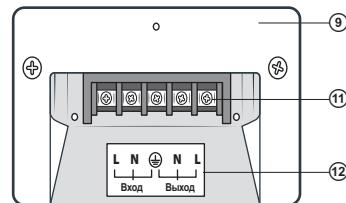

Fig. 4. Terminal box
- Voltage consumer-devices should be connected when the AVR is off. Open the terminal box ⑨ and with the help of relevant cables (not included) connect the appropriate load to the AVR terminals ⑪, after that connect the AVR to the 220 V household mains according to the diagram ⑫ in Fig. 4.
- Switch on the AVR with ON/OFF switch ⑦. Switch on connected voltage consumer-devices after that only.
- If the AVR operates properly, the green “Mains” LED ② illuminates, the LED ① will display the voltage at the output of the AVR, i.e. the output voltage.
- When the mains voltage exceeds the allowable rate (lower threshold is 133 V, upper threshold is 268 V) the LED ④ illuminates, the AVR disconnects the load automatically and the LED ① displays “L” or “H” .
- The Pause feature is designed to protect equipment in case of frequent drops of the mains supply. After power supply has been recovered, the AVR switches on within 6 or 180 seconds. The LED ③ lights up if this feature has been activated (On/Off button ④ is in On position).